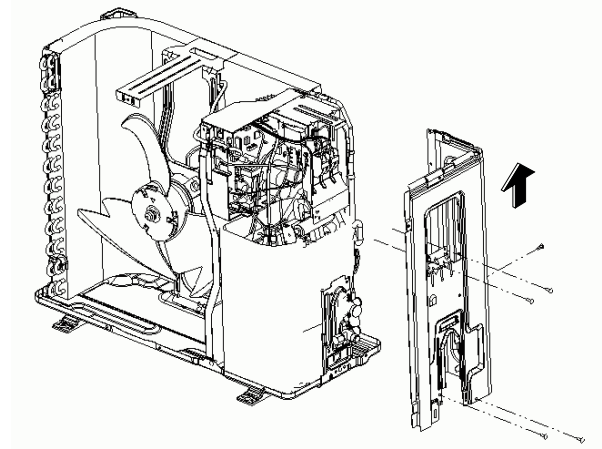

Fig. 56
(4) Remove the 5 screws from the edge of right side board and lift to remove the right side board. (Fig.56)